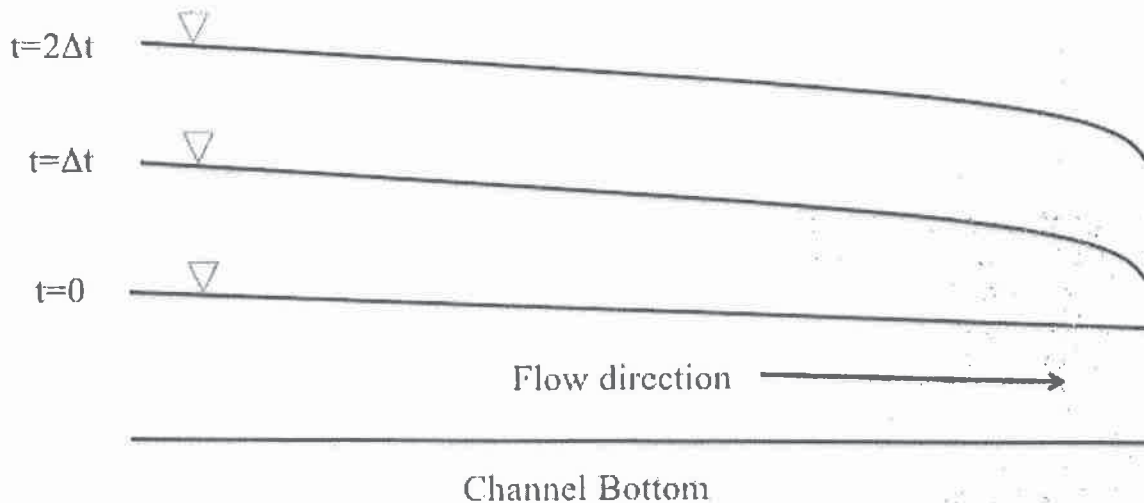

Figure 5. Water surface profile at times $t = 0$, $t = \Delta t$, and $t = 2\Delta t$ in rectangular channel after sudden closure of sluice gate.
5. A sluice gate is closed suddenly downstream of a rectangular channel. During a brief period of time after the closure of the gate, the upstream water surface profile at times $t = 0$, $t = \Delta t$, and $t = 2\Delta t$ (indicated in Figure 5) are observed. Based on the appearance of the water surface profiles in Figure 5, discuss whether the kinematic wave model or the dynamic wave model would be more appropriate to describe the hydraulic conditions in the channel. Structure your answer in terms of the mathematical terms in one of these models as well as key concepts such as steady flow, unsteady flow, uniform flow, non-uniform flow, momentum, inertia, compressibility and any other relevant concepts.